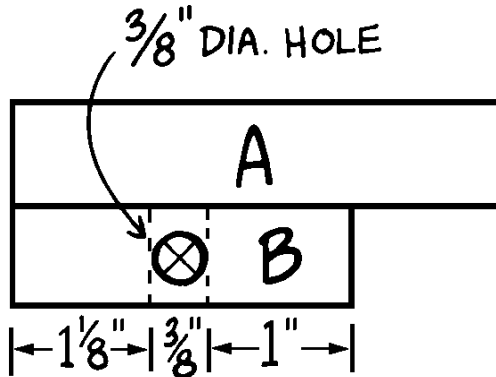

Figure 2
4. Repeat Step 3 to attach the remaining desktop brace (B) to the opposite end of the desktop (A).
5. Each of the desktop braces (B) must now be drilled to accept a dowel rod (C). Using the placement dimensions given in *Figure 2*, drill a $\frac{3}{8}$ "-diameter hole, $\frac{1}{2}$ " deep, in the end of one desktop brace (B).